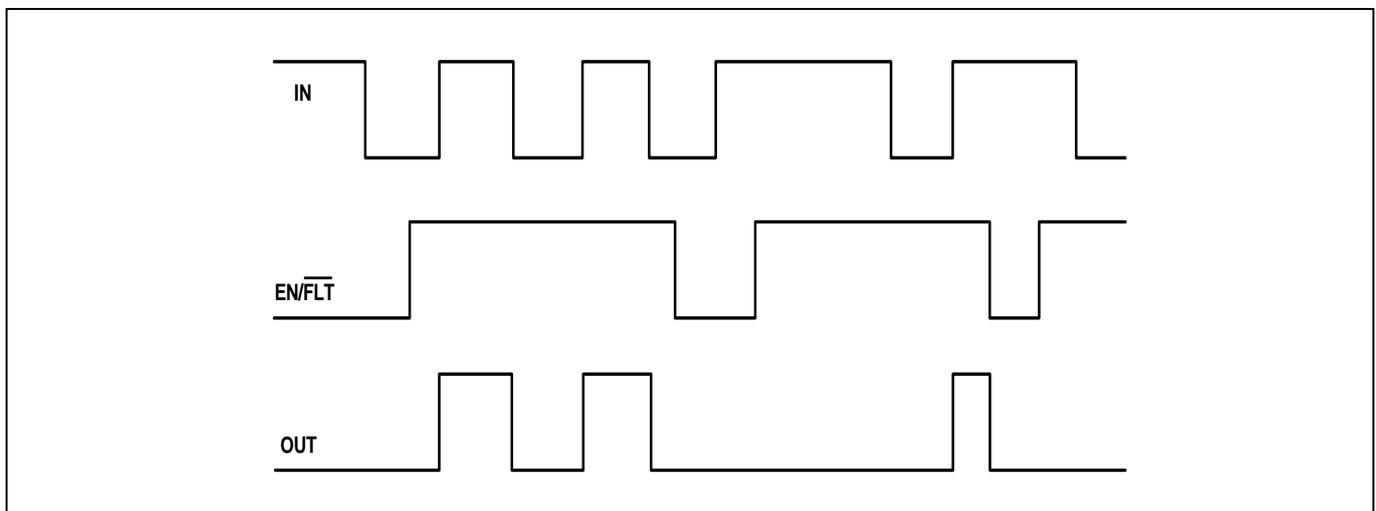

Figure 13 Input/output/enable pins timing diagram
The relationships between the input (IN), output (OUT) and enable ( $\overline{\text{EN/FLT}}$ ) signals of the 1ED44173N01B are illustrated below in Figure 13.